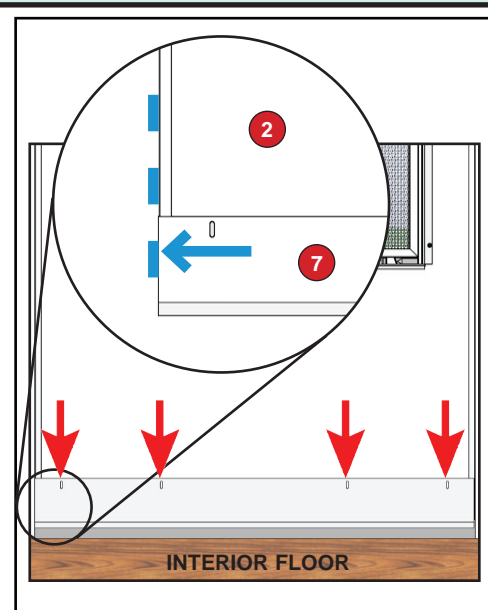

Figure 19
2. Position the door sweep so that it is flush with the latch-side of the door frame (Figure 19).